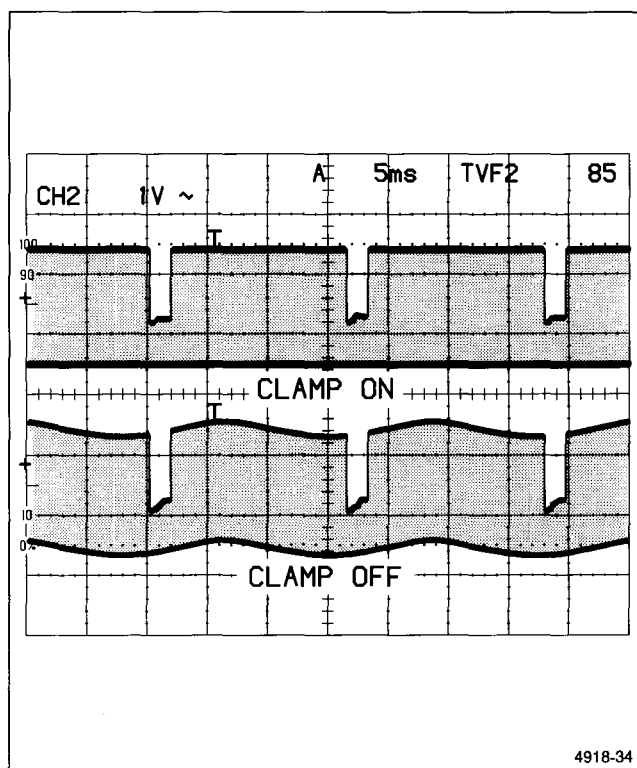

Figure 7-1. Composite Video Signal with and without TV clamping.
h. With the CH 2 back-porch CLAMP enabled, observe that the ac hum on the waveform has been eliminated (see Figure 7-1).